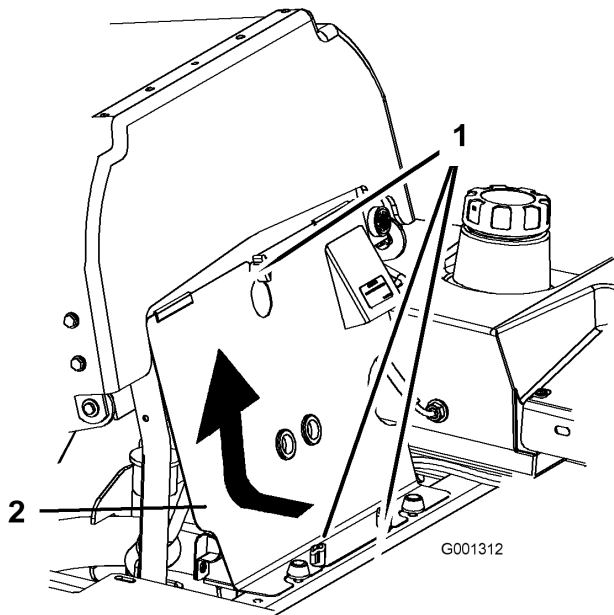

Figure 56
3. Loosen the front engine panel knobs and remove the panel (Figure 56).